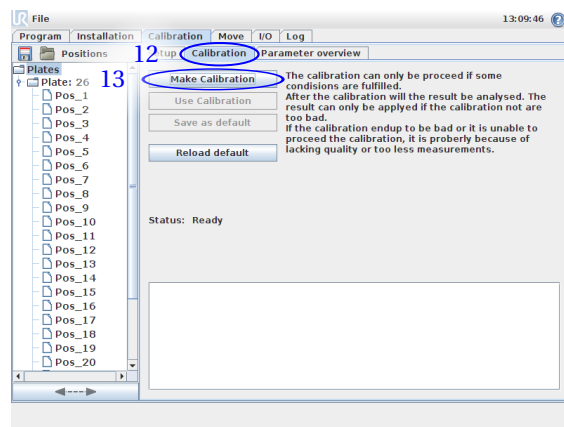

Figure 1.10: Select the calibration tab and press "Make Calibration" to start the calibration.
- (12) The calibration is started from the "Calibration" tab, see figure 1.10.
- (13) Start the calibration by press "Make Calibration", see figure 1.10.